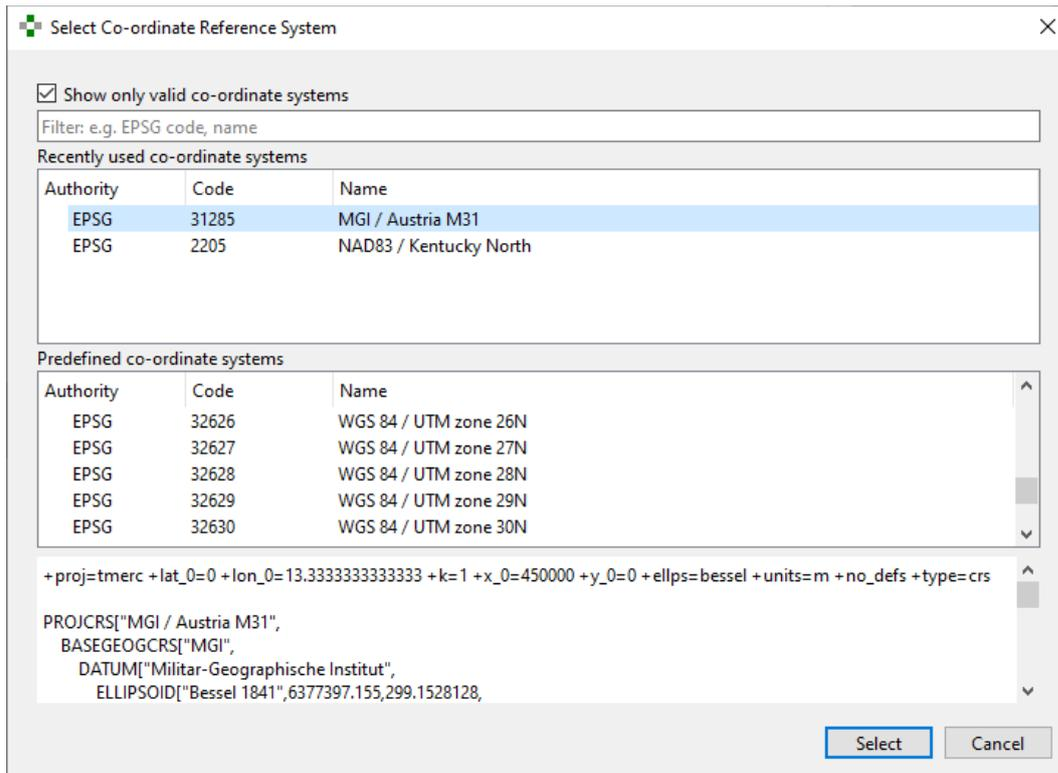

Figure 8: Select Co-ordinate Reference System
Co-ordinate system	The UTM zone is auto-detected from the referencing information of images (WGS 84). The user can select a user defined co-ordinate system by clicking on the  button and selecting "Browse Co-ordinate System". The dialog "Select Co-ordinate Reference System" appears which allows for the selection of a specific co-ordinate system (Figure 8). The 3D model is transferred automatically into the desired co-ordinate system after 3D model generation.
7. Select the co-ordinate reference system: UTM Autozone (default) or select a specific co-ordinate system by clicking the  button. Select “Browse Co-ordinate System” and the “Select Co-ordinate Reference System” dialog appears (Figure 8). Select the reference system from the list and confirm the selection by clicking the “Select”  button.
- ii. Select a customized source and destination co-ordinate reference systems by selecting the radio button *WGS 84* or *Custom* and click in the  button and select the system in dialog (see Figure 8).